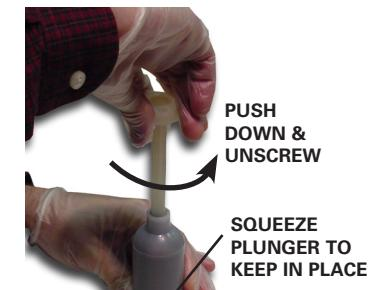

Figure 4
10. At the last stroke, push the mixing rod all the way in to the bottom (red side), grasp the cartridge firmly at the bottom to hold plunger in place, and immediately unscrew the mixing rod and remove carefully. See Figure 4.